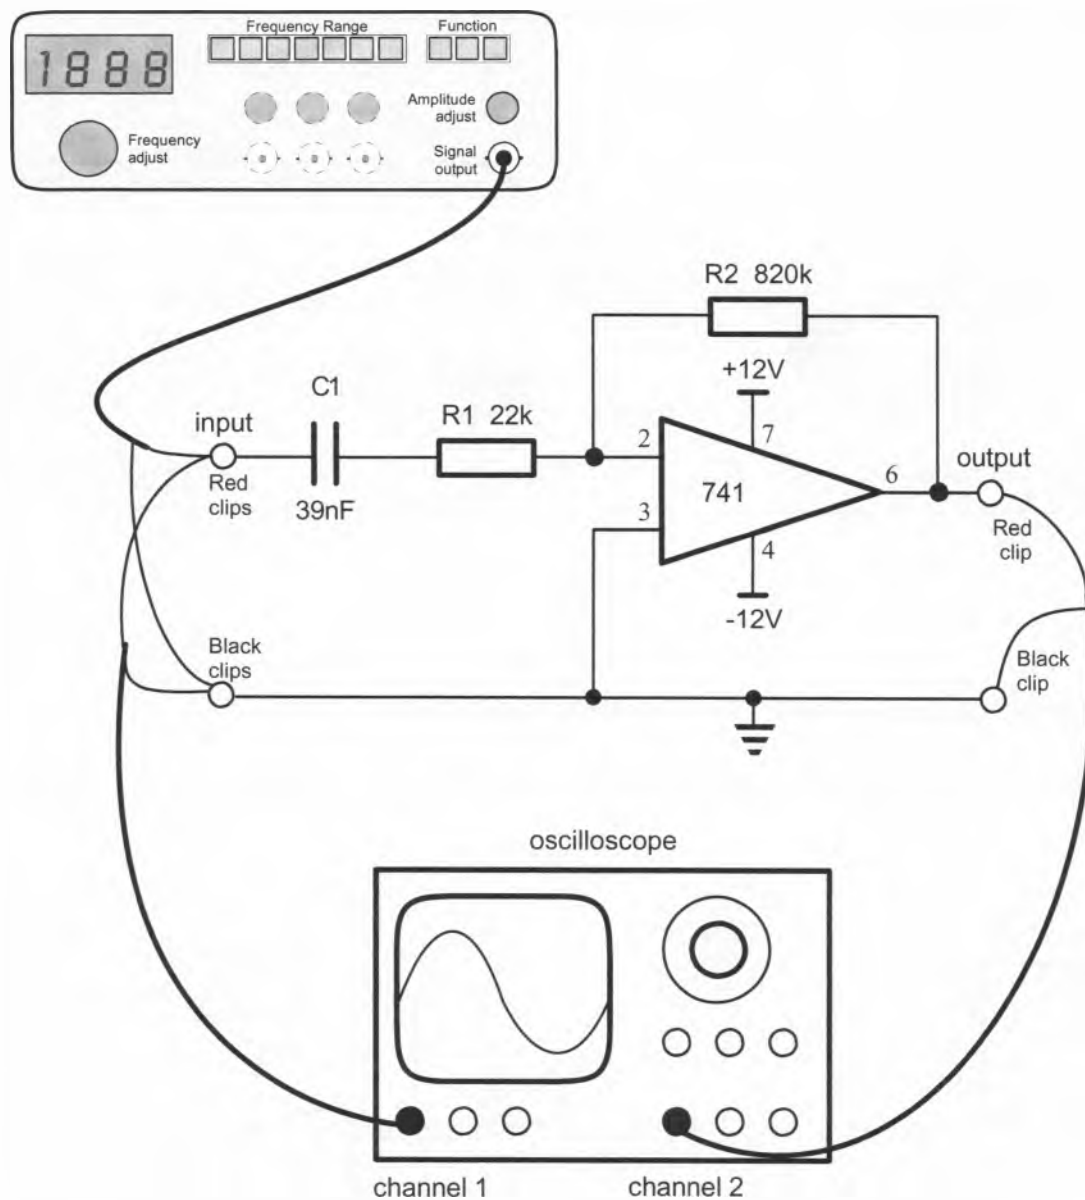

Figure 3
5. Connect the bench-mounted function generator and CRO to the circuit as shown in Figure 3 below.